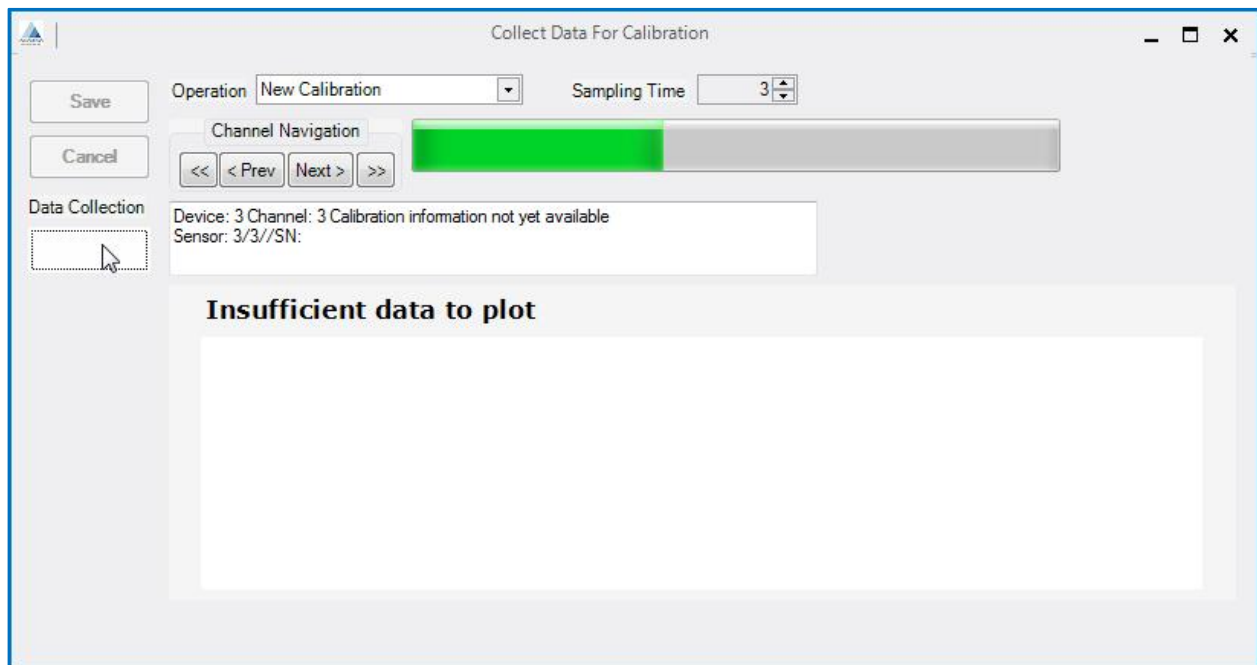

Figure 16: Calibration Window Collecting Calibration Data
The Collect Data for Calibration window launched by the calibrate button and shown in Figure 16 is used to collect and manage the data needed for calibration. The window contains the following elements:
- A **Plot Area** appears below the Channel Information box. The data points in a calibration, the calibration curve, and the re-zero curve are displayed in this area. In the example window shown in Figure 16, the message Insufficient data to plot is displayed indicating that there are not enough data points to compute a calibration curve.